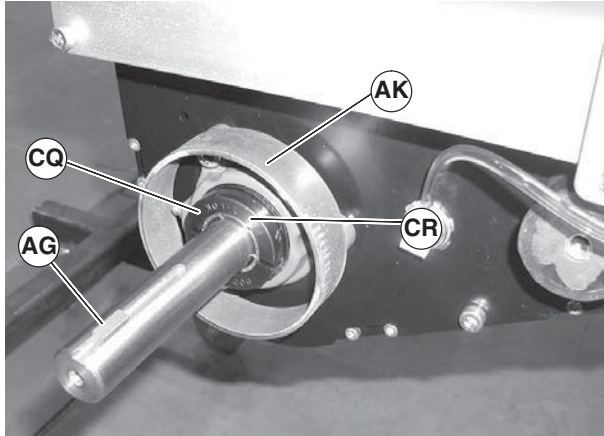

Figure 86
3. Remove spacer ring (Figure 86, item AK) and key (AG). Loosen clamp screw (CQ) and remove bearing collar (CR).
7. Reinstall bearing collar (Figure 86, item CR). Tighten clamp screw (CQ) to 95 in-lbs (11 N-m).
8. Reinstall key (Figure 86, item AG).